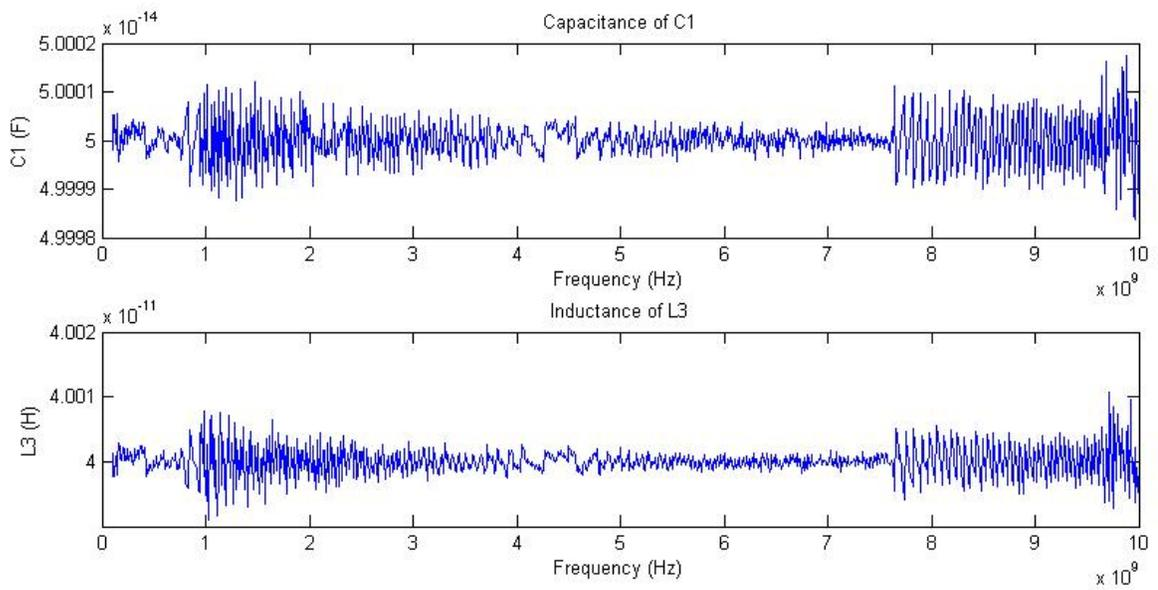

Figure 12: Matlab graphs of π model component values.
1. Open the ADS (or MWO) project (an .emp project file and a .vin window-layout file) and the Matlab script (.m file). Make sure you set the paths correctly so that you can write files from ADS/MWO and then read them into Matlab. Fig. 11 and Fig. 12 illustrate the example for the π model circuit ($C-L-C$) (or Fig. 10). The schematic
2. In Matlab, run the script. The script reads the .s2p file, converts the S-parameters to Y-parameters and then extracts the π model's component values. Fig. 12 shows that Matlab deduces from the Y-parameter data that the capacitors are 0.05 pF and the inductor is 0.04 nH.